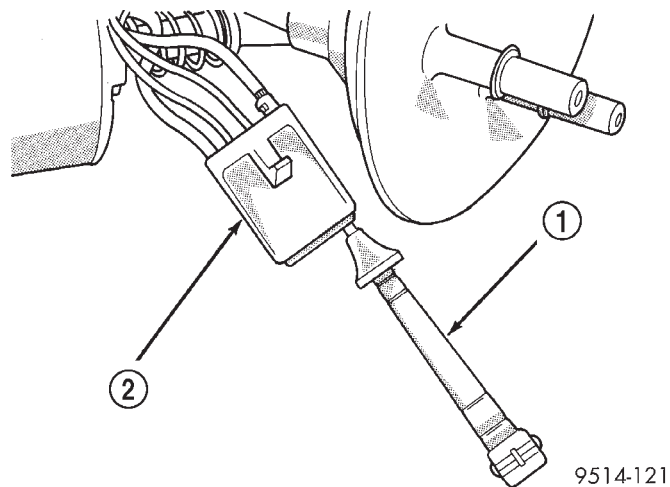

Fig. 19 Terminal Removal Tool
(2) Using Special Tool C-4334 terminal remover or equivalent, remove terminals from level sensor connector (Fig. 19).